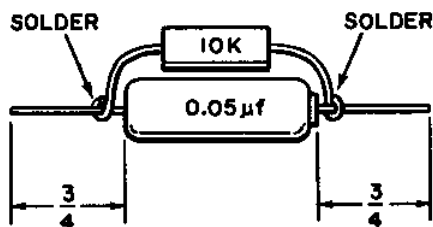

FIGURE 5
167. (✓) Select a 0.05 μ f 400 volt molded capacitor C30 and a 10K ohm 2 watt resistor (brown, black, orange, silver) R25. Prepare these two components as shown in Figure 5. First, wrap the leads of the resistor around those of the capacitor. After cutting off surplus resistor lead, solder each wrap carefully. Trim each capacitor lead to 3/4" in length. Slip a 1/2" length of yellow sleeving over each lead and connect the resistor/capacitor combination between SW-3 lug 5 (S-1) and V5 lug 9 (NS). Be sure to connect the outside foil end (line) to V5 lug 9.